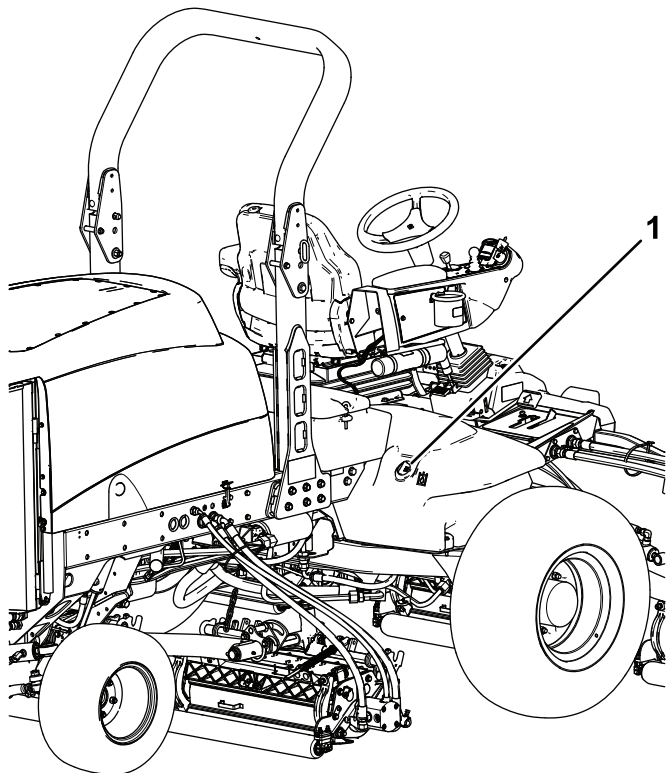

Figure 37
2. Clean the area around the filler neck and cap of the hydraulic tank (Figure 37).